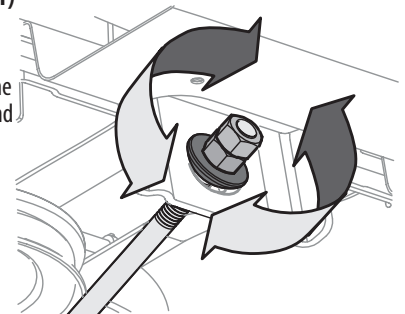

Figure 19
4. To raise the front of the deck, loosen the outer nut then tighten (thread inward) the nut against the front hanger bracket. See Figure 19. When proper adjustment is achieved, re-tighten the outer nut to 25–30 ft.-lbs (33.9–40.7 N-m).
5. To *lower* the front of the deck, loosen the outer nut then loosen (thread outward) the nut, away from the front hanger bracket. See Figure 19. When proper adjustment is achieved, re-tighten the outer nut.